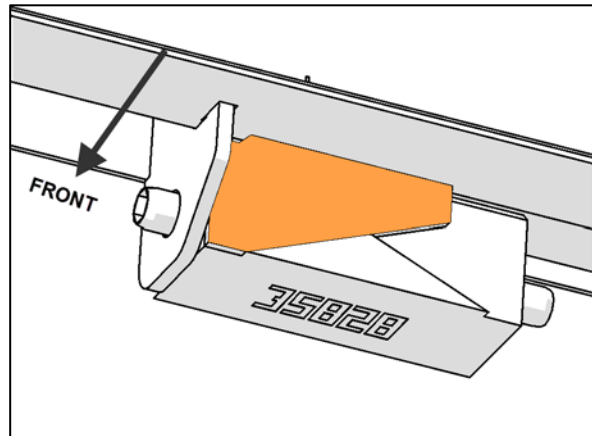

Figure 10
19. Place gusset #240036 in the rear curbside position of jig. (Fig. 10)